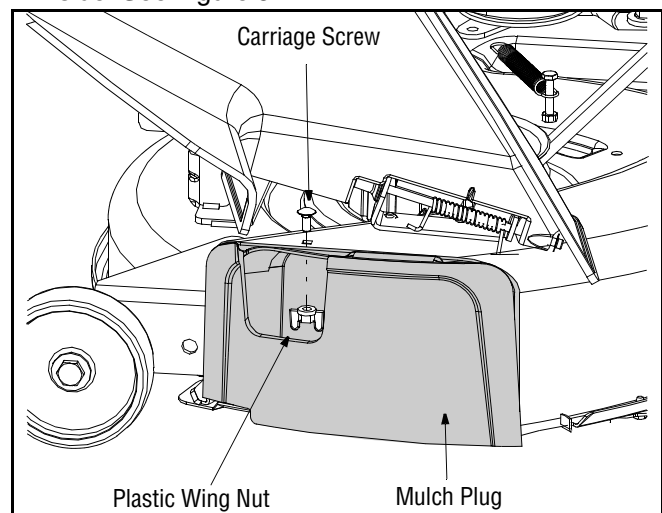

Figure 8
- To operate the cutting deck without mulching, simply remove the mulch plug by unthreading the plastic wing nut which fastens it to the cutting deck. This will allow the clippings to discharge out the side. See Figure 8.